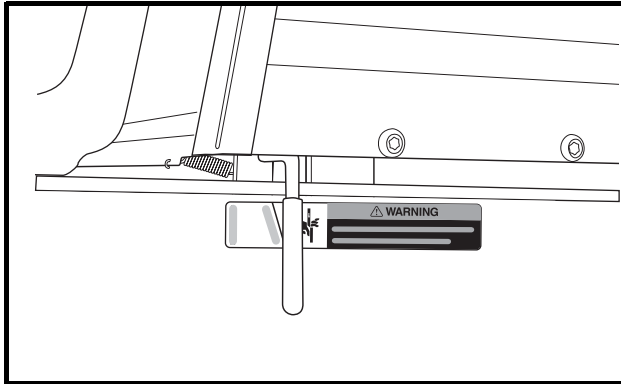
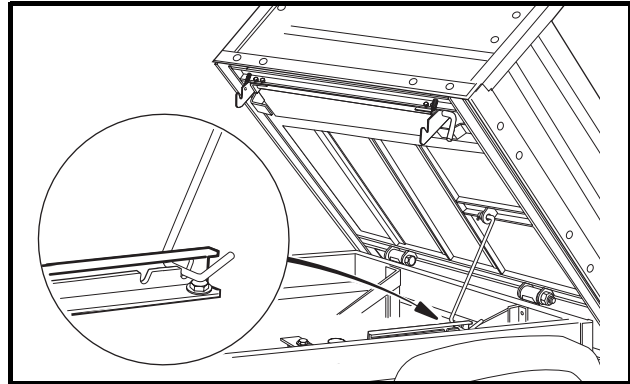

Figure 10 HUV4213 Bed Latch
Figure 11 HUV4213 Prop Rod
The bed latch (**Figure 10**) has an automatically engaging prop rod and prop rod track (**Figure 11**) as standard features. To lift the bed, pull the bed latch handle toward the rear of the vehicle and lift the bed. The prop rod will come to rest in one of the notches in the prop rod track. To close the bed, lift the bed so that the prop rod is no longer supported in one of the track notches. Push the prop rod toward the front of the vehicle to free it from the track notch and gently lower the bed. **DO NOT** drop the bed. See following **DANGER**, **WARNING**, and **NOTE**.
**NOTE:** The HUV4213 vehicle is equipped with an automatically engaging prop rod (**Figure 11**), unless equipped with the electric bed lift accessory.